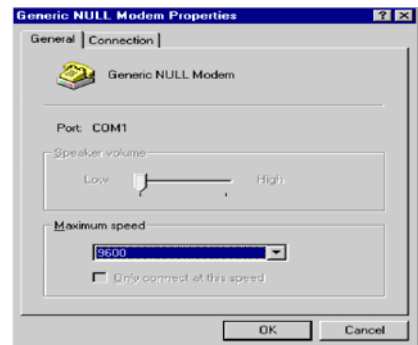

Figure 10 General Modem
18. Select a baud rate setting (Figure 10).